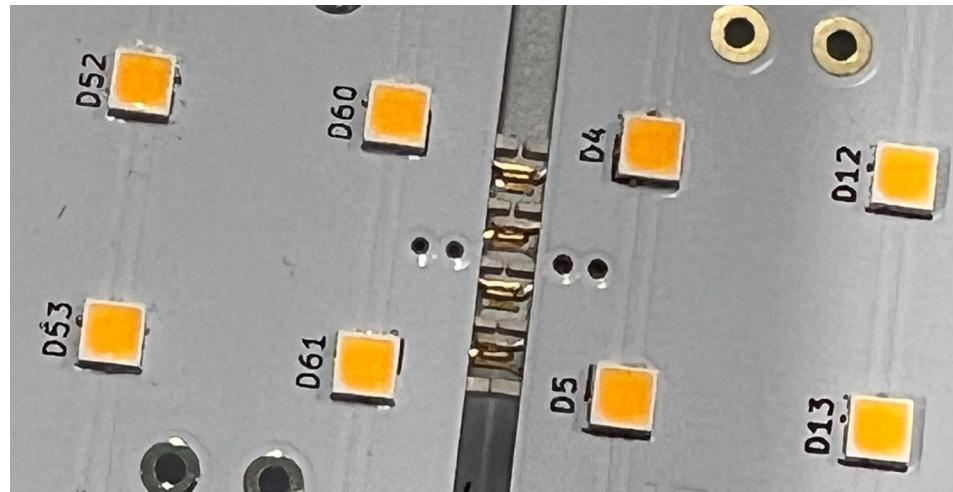

Figure 21: Two LED boards connected using the hermaphroditic interconnector
5. Connect the other 5 LED boards. With the hermaphroditic connectors on all 4 edges of each PCB, you should theoretically be able to “drop” them in from above to connect to the adjacent boards. Align the boards with the mounting holes and screw them in with M3 screws. See Figures 21 & 22 for reference
2. Double check the board-to-board connectors. You may need to remove the screws to better align the connection. Make sure they are connected as shown in Figure 21.